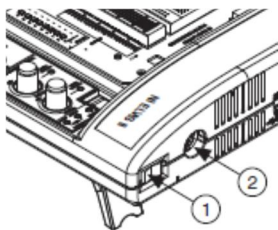

Figure 1 ELVIS main power switch
1. Turn-on the main power to the ELVIS board using switch (1), Figure 1.